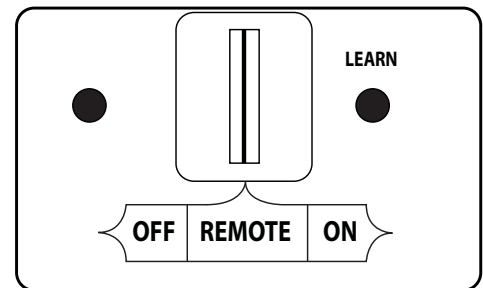

Fig. 27-1 Remote receiver detail (REMOTE)
1. Locate the 3-position switch on the remote receiver (see Fig. 27-1), and slide the switch to the **REMOTE** position.